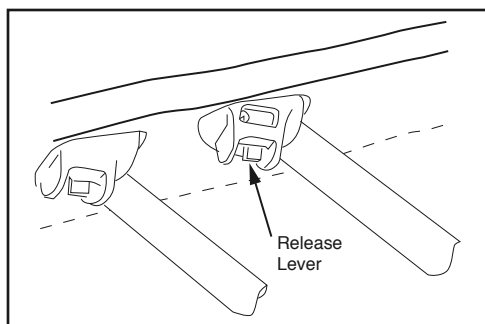

Figure 2: The release clip on the mat fitting (view beneath mat edge)
1. To release each rod, push the clip lever towards the mat centre, and hold. Then push the ball end of the rod towards the mat centre to disengage it from the socket (Figure 2).